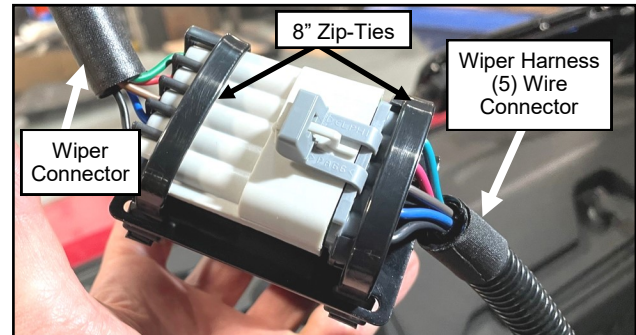

Fig. 1.10 (Zip-Tie 5-pin Connectors to Top of Bracket)
- 1.10** Per figure 1.10, connect the (2) 5-pin connectors found on the wiper motor and Wire Harness w/o Relay. Zip-tie the connectors to the top of the Rocker Switch bracket.